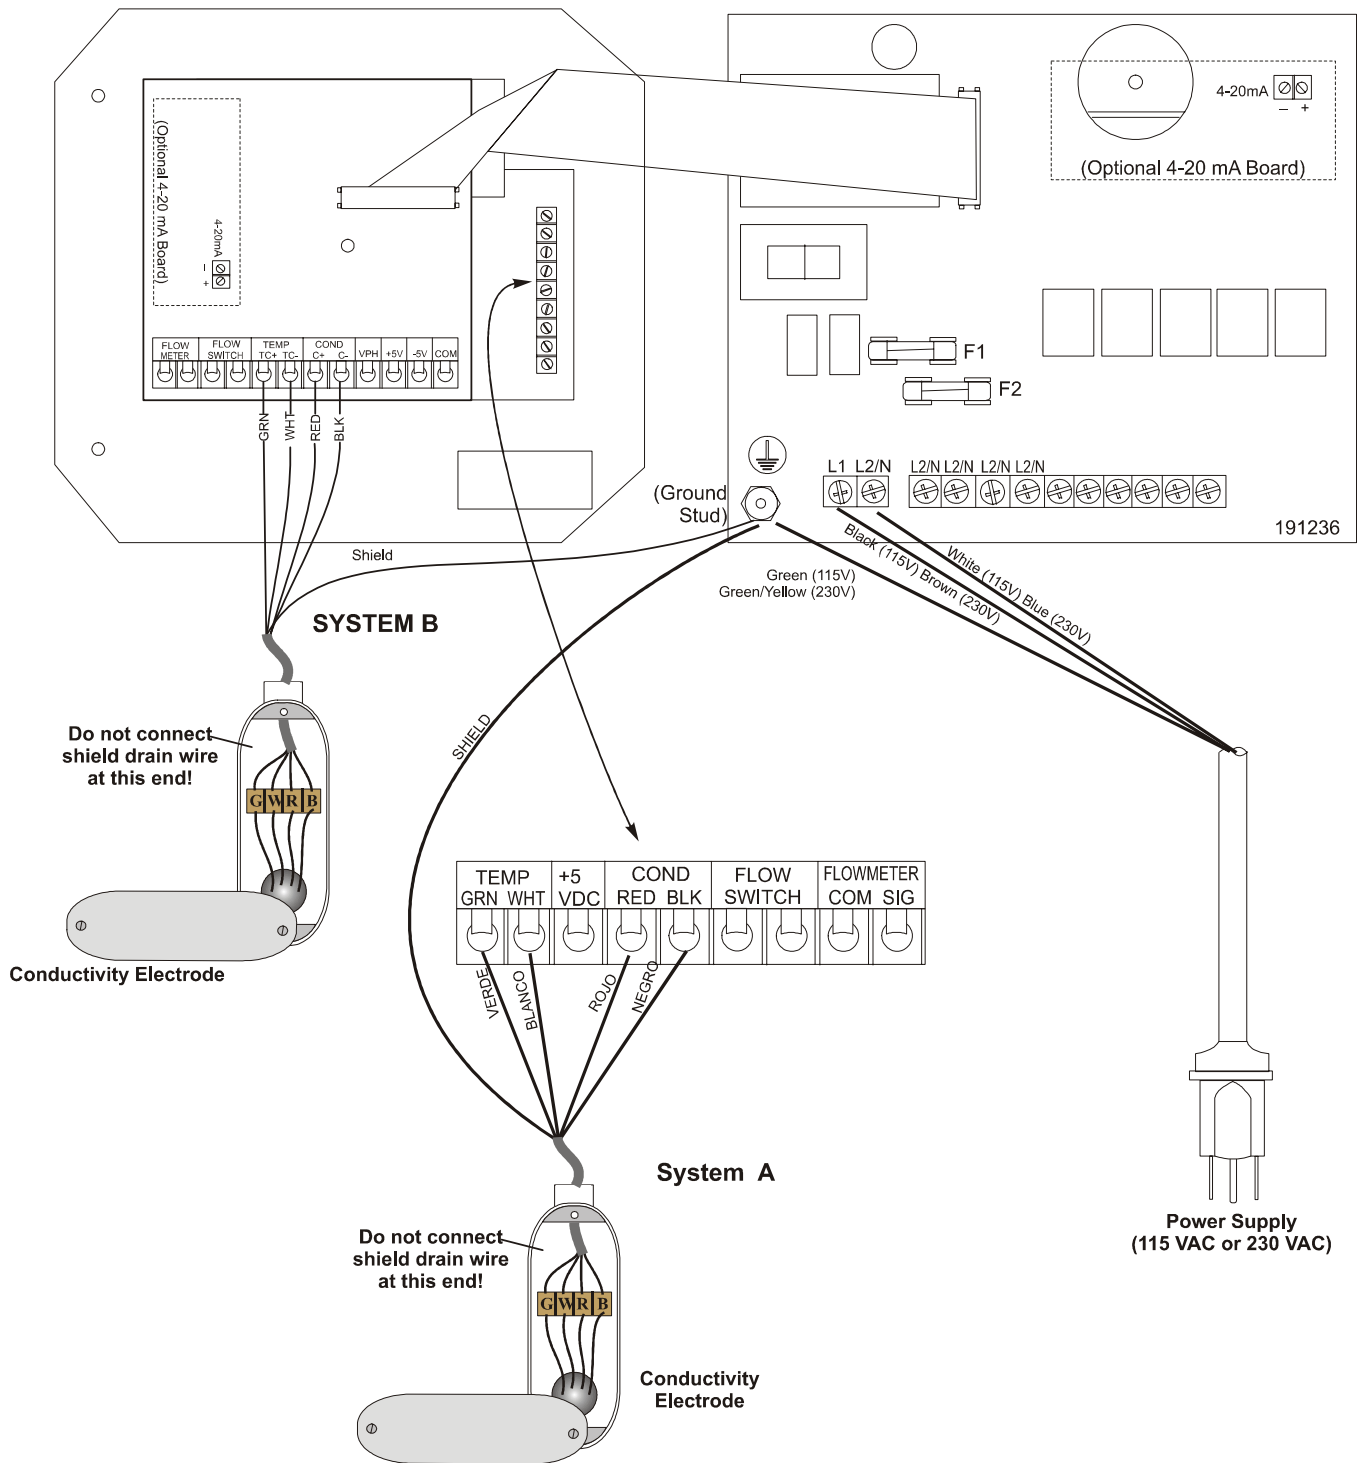

Figure 4 Inputs (for power relay board #191236)
The various standard wiring options are shown in figure 2, below. Your WDB series controller will arrive from the factory prewired or ready for hardwiring. Depending on your configuration of controller options, you may be required to hardwire some or all of the input/output devices. Refer to figures 4 and 5 for circuit board layout and wiring.
2. When wiring the optional flow meter contactor input, the 4-20 mA output or a remote flow switch, it is advisable to use stranded, shielded, twisted pair wire between 22-26 AWG. Shield should be terminated at the controller ground stud (see figures 4 and 5).